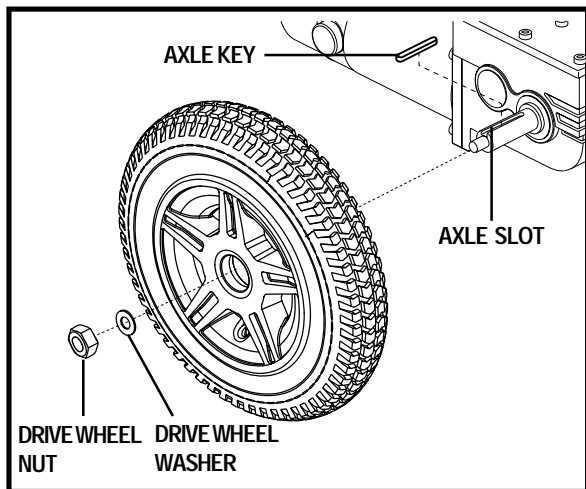

Figure 25. Quantum 500 Drive Wheel
4. Remove the drive wheel nut and washer from the axle. See figure 25.